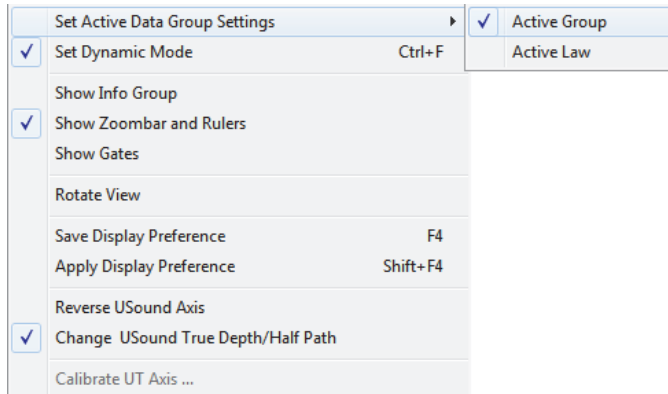

Figure 4-17 Selecting Active Group
1. Right-click the view header (at the top of the view) and select **Active Group** (Figure 4-17 on page 114).